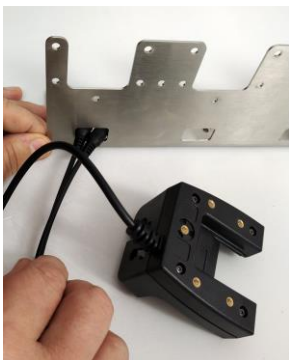

Figure 1
3. Feed each cable thru its corresponding rectangular opening as shown, see Figure 1.